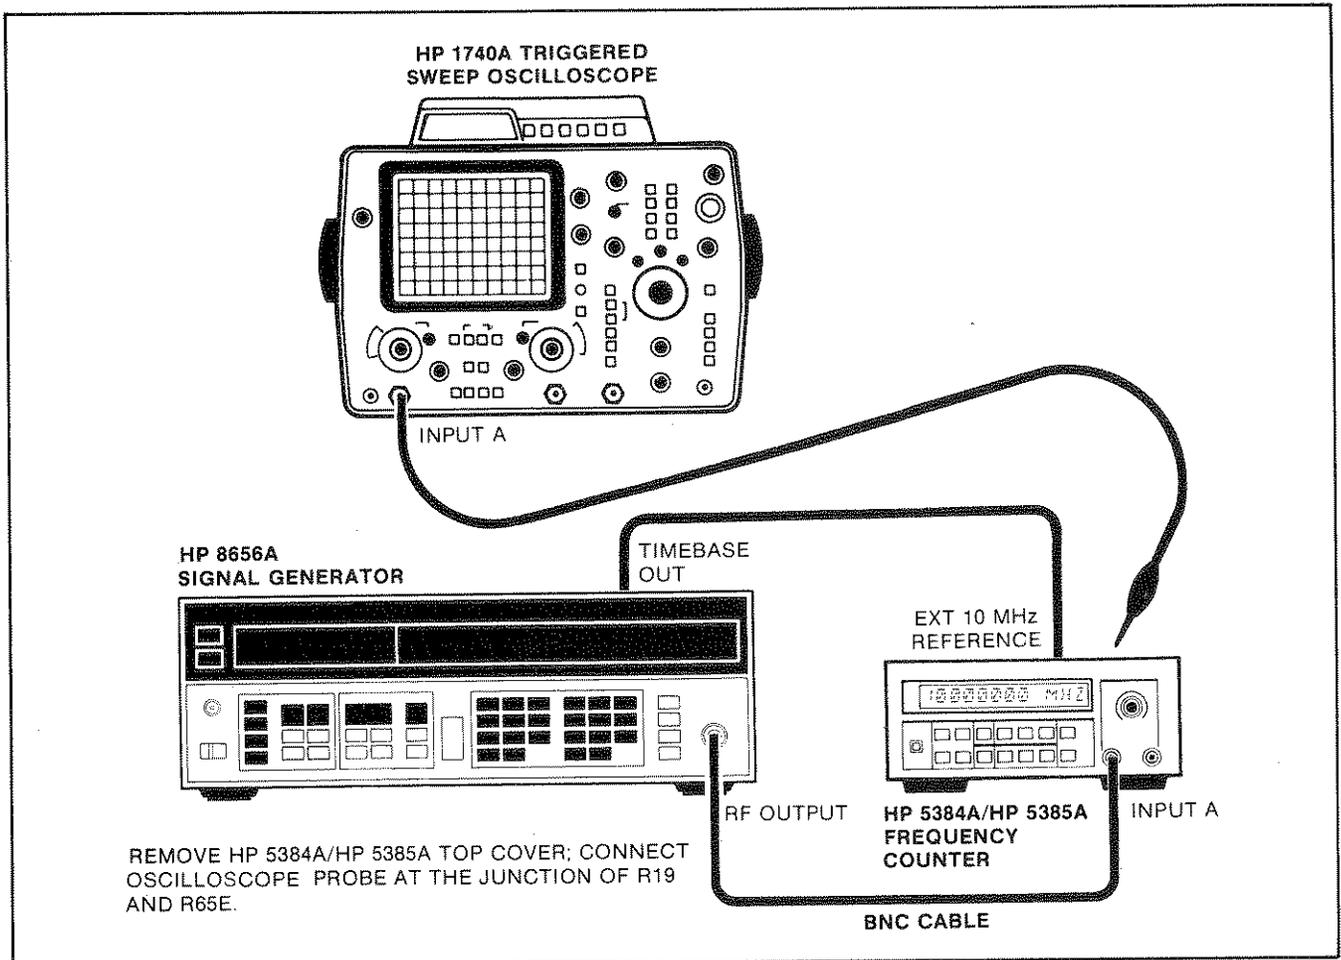

Figure 5-2. Channel A Input Amplifier Adjustment Setup
- c. Connect the HP 8656A Signal Generator as shown in *Figure 5-2*.